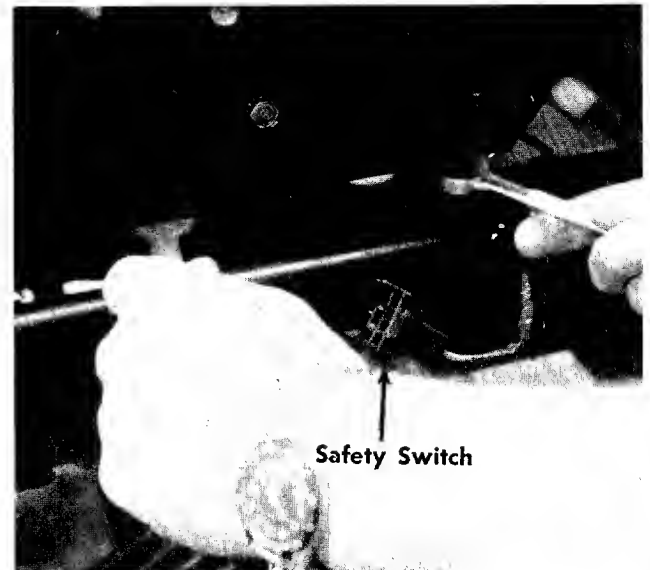

FIGURE 14. BELT GUARD REMOVAL
- h. Unplug the safety switch. See figure 14.
- i. Remove the two bottom bolts on the belt guard. Lift off the belt guard. See figure 14.